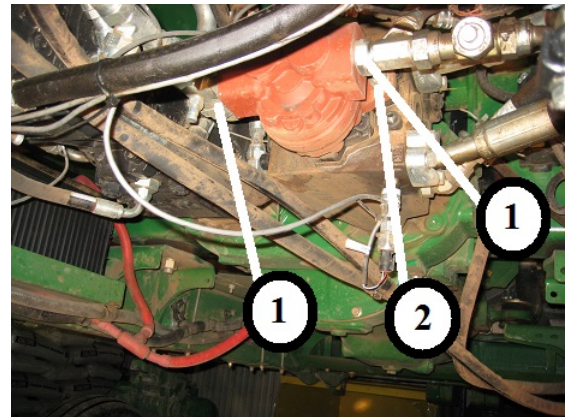

Figure 41. Original Hydraulic Fittings
Remove hydraulic fittings from the pump and remove auxiliary hydraulic pump from the main hydrostatic pump. Two (2) M12x35 bolts are removed. See Figures 41 and 42 for reference.